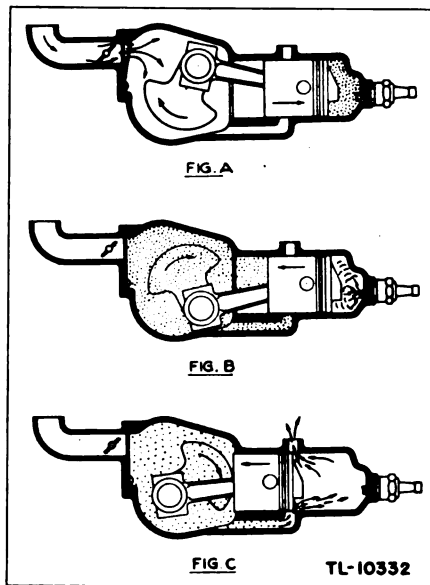

Figure 41—Operation of Piston
valve attached to the rear of the carburetor (Fig. 41). At the same time, a charge, previously drawn into the crankcase and subsequently passed into the cylinder, is being compressed.
d. Near the bottom of its downward (power) stroke the piston uncovers the exhaust port of the cylinder, releasing the exhaust gases, most of which rush out as in Figure 41. As the piston continues down it then uncovers the intake ports, permitting the compressed fuel charge in the crankcase to rush into the combustion chamber, thus pushing the remainder of the exhaust gases out of the cylinder. The compressed fuel is prevented from crossing directly across the cylinder head and out the exhaust port by a baffle cast on top of the piston. By the time the incoming gas reaches the exhaust port, the piston has already started to move upward again, closing the port and starting a new compression stroke. A power stroke is thus accomplished once each revolution.